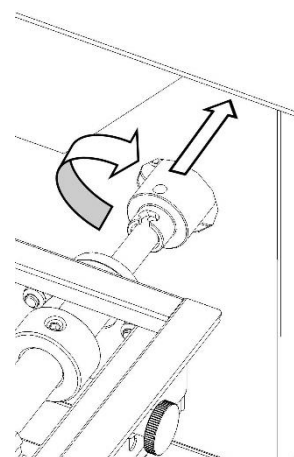

Fig.1B
- Slide the joint towards the control panel freeing it from the conveyor belt drive shaft (Fig.1B)..